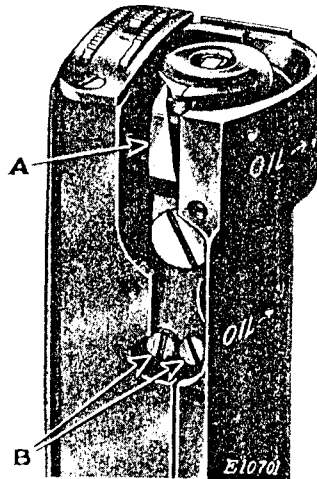

Fig. 19. Adjustment of Mechanical Opener
The bobbin case lever (A, Fig. 19) at the left of the hook, actuated by the eccentric on the hook shaft, strikes the pro-
The bobbin case lever (A) may be adjusted by loosening the bobbin case lever screws (B, Fig. 19) and moving the bobbin case lever forward or backward.
If the bobbin case lever is set to open the bobbin case too far, it will cause a bind between the bobbin case bearing and the hook bearing, and care must be exercised to see that this condition does not prevail. After the correct adjustment is made, firmly tighten the two screws (B, Fig. 19).